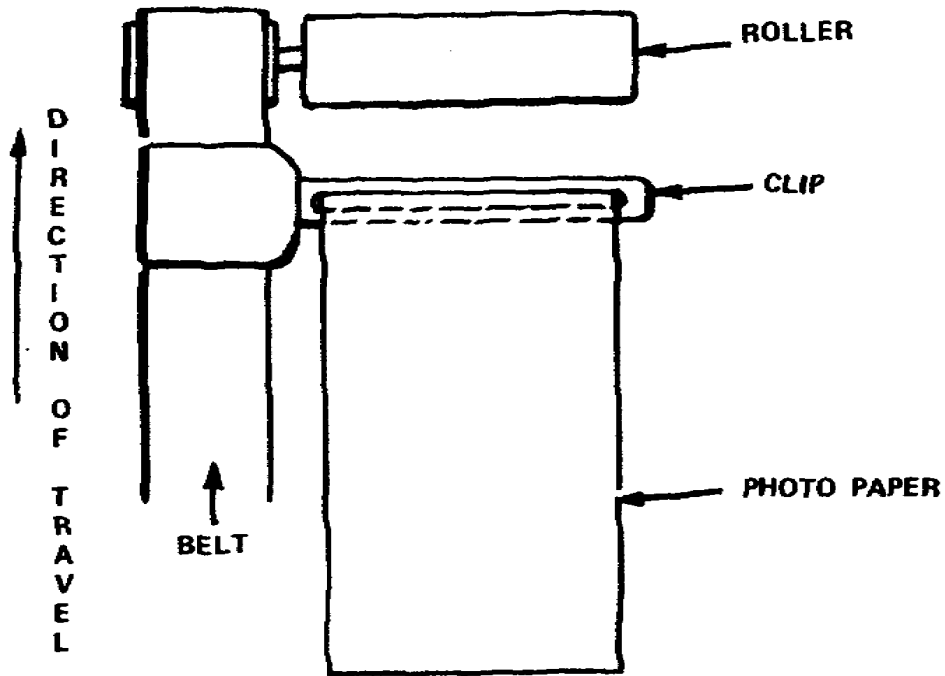

Figure 1-7. Paper feed with clip
b. The belt-drive system uses a belt that is threaded through the machine between the outer ends of the rollers. The paper is threaded through a clip which is then attached to the belt to be transported through the machine for processing (fig 1-7).